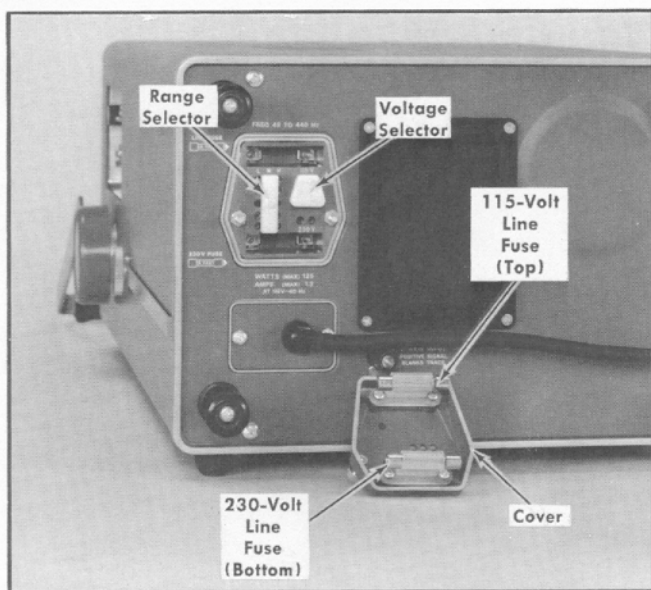

Fig. 2-3. Line Voltage Selector assembly on the rear panel (shown with cover removed).
3. To convert from 115-volts nominal to 230-volts nominal line voltage or vice versa, pull out the Voltage Selector switch bar (see Fig. 2-3); turn it 180° and plug it back into the remaining holes. Change the line-cord power plug to match the power-source receptacle or use a 115- to 230-volt adapter.
4. To change regulating ranges, pull out the Range Selector switch bar (see Fig. 2-3); slide it to the desired position and plug it back in. Select a range which is centered about the average line voltage to which the instrument is to be connected (see Table 2-1).